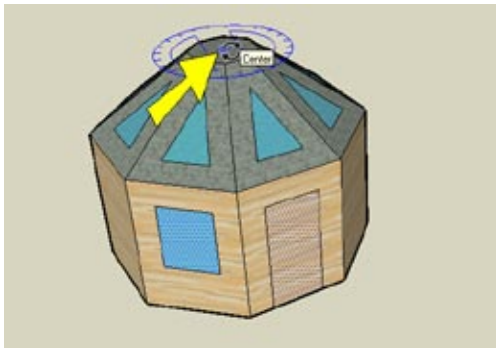

Figure 1-52
14. Activate Rotate and click the same center point as before, at the center of the top octagon (Figure 1-52).